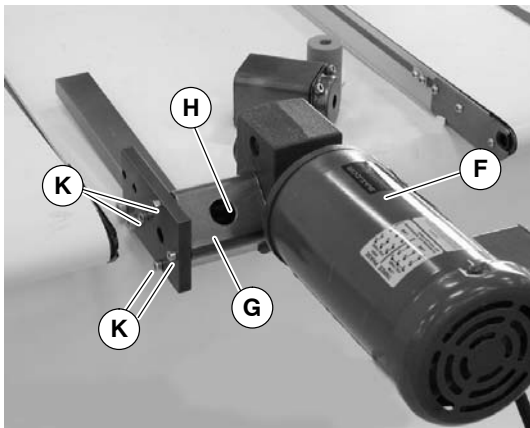

Figure 36
- Remove four (4) screws (K of Figure 36) and remove guard tube (G) and flex coupling (H). Remove gearmotor assembly (F).